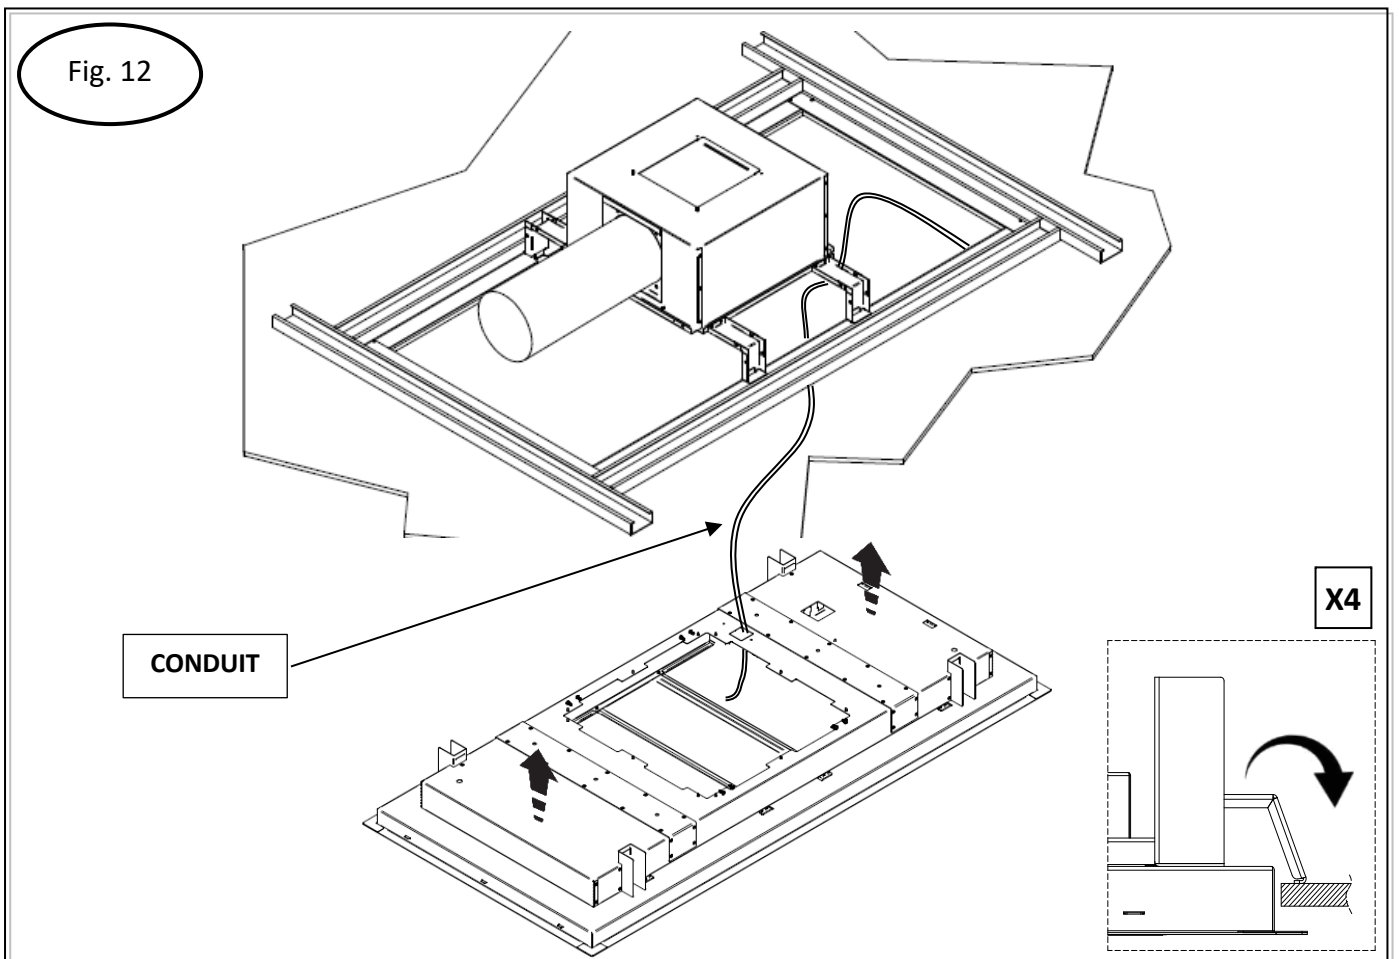

Fig. 13
- Tighten the 4 screws of the quick-release brackets so that they make enough pressure to secure the hood to the ceiling. Now that the hood is securely fastened, run the CONDUIT through the JUNCTION BOX (fig.13).